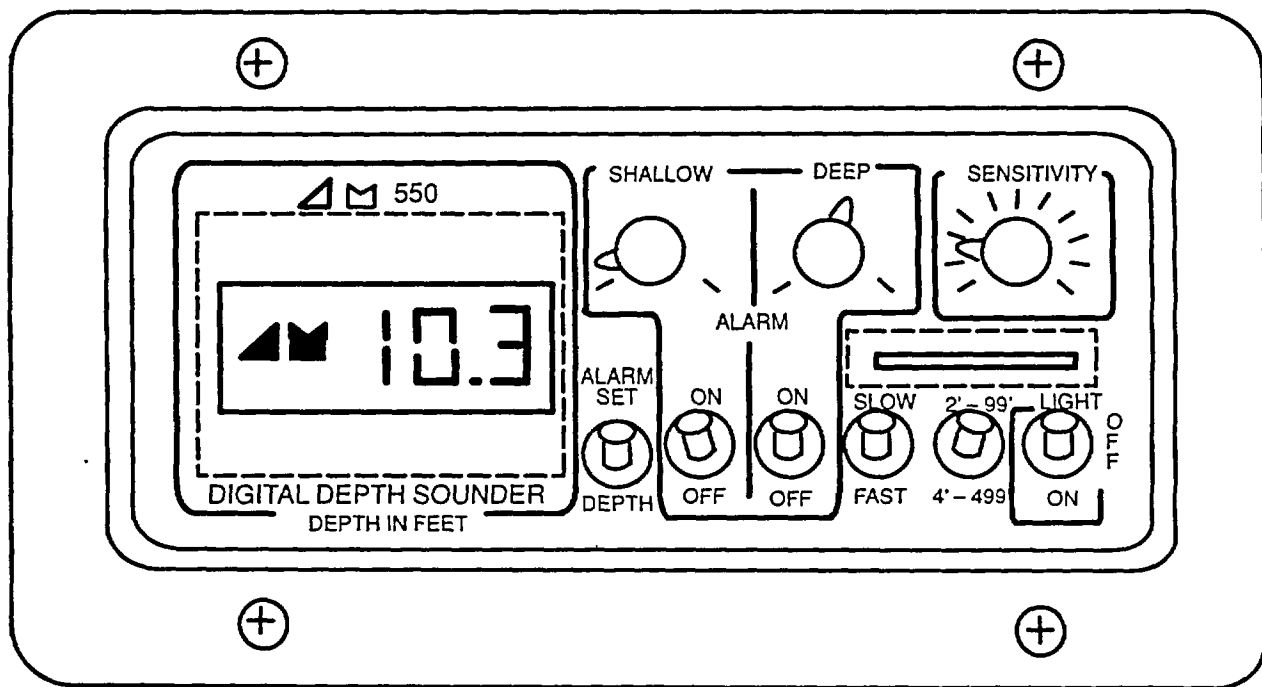

Figure 10-5. Depthfinder Controls and Indicators
10-6.16 Depthfinder controls and indicators. These are mounted aft of VHF/FM radio on starboard side of operator's position and shown in Figure 10-5.
- b. Make sure LIGHT/OFF/ON switch (Figure 10-5) is in center OFF position.